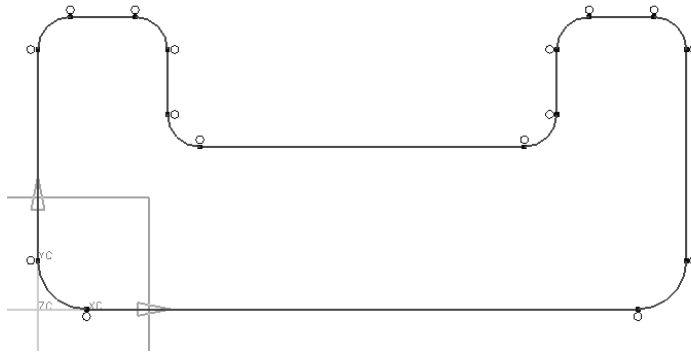

Figure 1-44 Sketch after creating fillets
7. Right-click and choose **Cancel** from the shortcut menu to exit the **Fillet** tool. The sketch, after creating fillets, is shown in Figure 1-44.